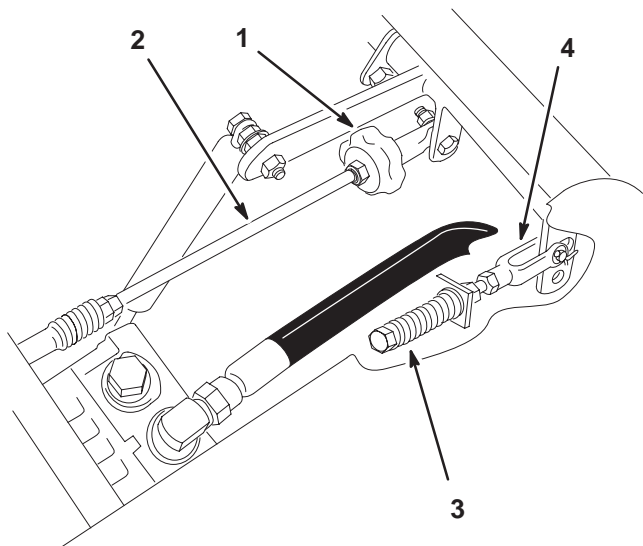

Figure 60
2. Adjust the pump rod length by rotating the knob, in the appropriate direction, until the wheel is still or slightly creeping in reverse (Fig. 60).